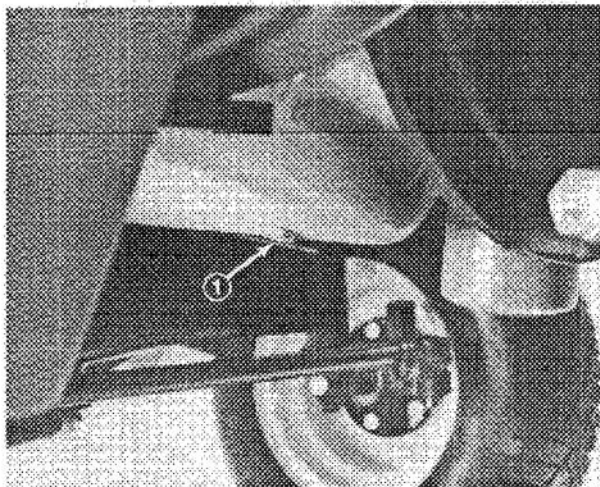

Figure 40
ENGINE OIL AND FILTER (Fig. 40)
1. Remove drain plug (Fig. 40) and let oil flow into drain pan. When oil stops, install drain plug.